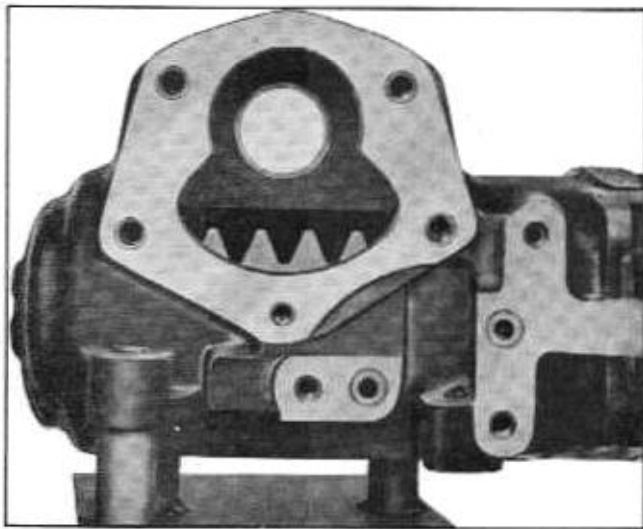

Fig. 9-61 Centering Rack-Piston
1. Turn worm shaft until center groove of rack-piston is aligned with center of pitman shaft bushing (Fig. 9-61). Tape serrations of pitman shaft before installing to protect oil seal.